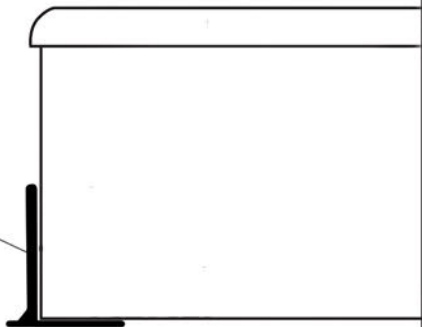
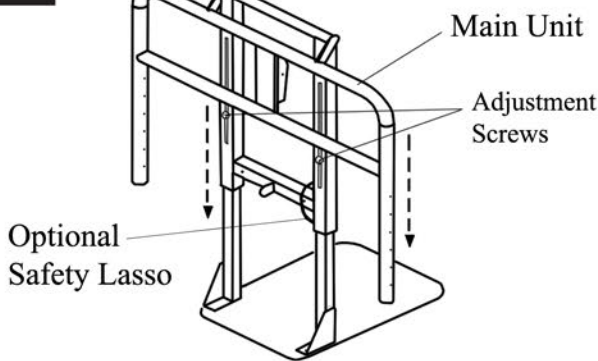

Figure 3
Figure 4
Step 3. Slide the open supports of the MAIN UNIT over the SUPPORT LEGS. Next, loosely thread the ADJUSTMENT SCREWS through the WASHER into the holes in the SUPPORT LEGS. Adjust the height of the MAIN UNIT (see figure 4.) The MAIN UNIT will be held in place by tightening the ADJUSTMENT SCREWS to pinch the washer against MAIN UNIT. SEE FIGURE 3.
Step 4. Attach the Left and Right U-ARMS to the open tubes of the MAIN UNIT using the spring buttons (already attached.) Swing the U-ARMS up so they are parallel with the ground and using the ADJUSTMENT SCREWS, adjust the height of the MAIN UNIT so that the U-ARMS are level with the top of the spa without the cover. SEE FIGURE 4. NOTE: IF YOUR SPA COVER IS TOO THICK WHEN FOLDED TO FIT WITHIN THE U-ARMS, USE THE INCLUDED EXTENSION PIECE TO WIDEN THE ARMS.